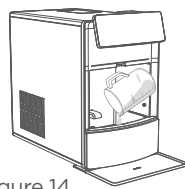

Figure 14
- 2.3 Add the diluted cleaning/descaling detergent to the inner water tank, and put the ice bucket back (see Figure 14).